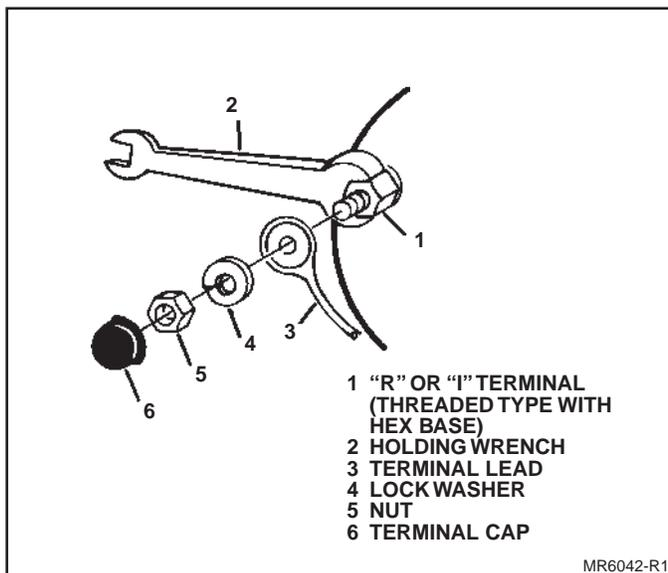

Figure 43. Threaded "I" and "R" Terminals
10. "I" and/or "R" (or "Relay") terminal connectors, if used. For threaded terminals with a hex base, hold hex portion of terminal as anti-turn while tightening nut (Fig. 43).